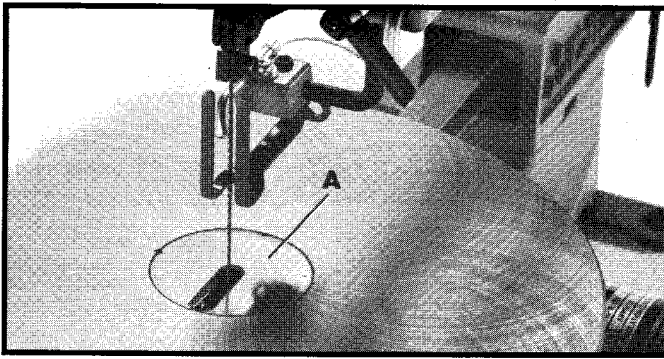
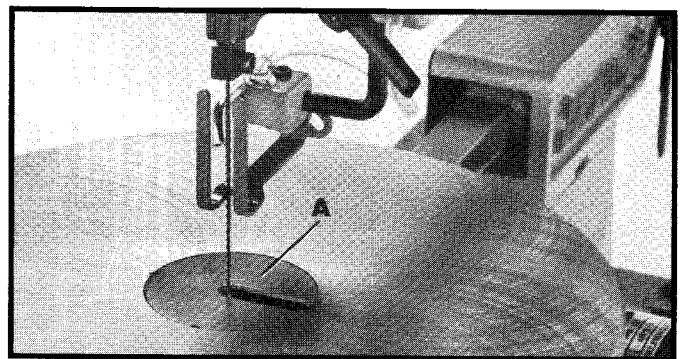

Fig. 20
Fig. 21
The table insert (A) can be assembled to the saw table with the opening in the insert pointing to the front of the table, as shown in Fig. 20, or to the right as shown in Fig. 21.
With the table in the level position, 90 degrees to the blade, the insert (A) should be positioned, as shown in Fig. 20. This allows for the blade to be pivoted forward after it is unclamped from the top blade holder, enabling you to quickly insert the blade into the next hole in a pattern when doing inside-cutting, as you will see later in this manual.
When tilting the table for bevel cutting operations the insert (A) should be positioned as shown in Fig. 21. This allows for clearance of the blade when tilting the table.